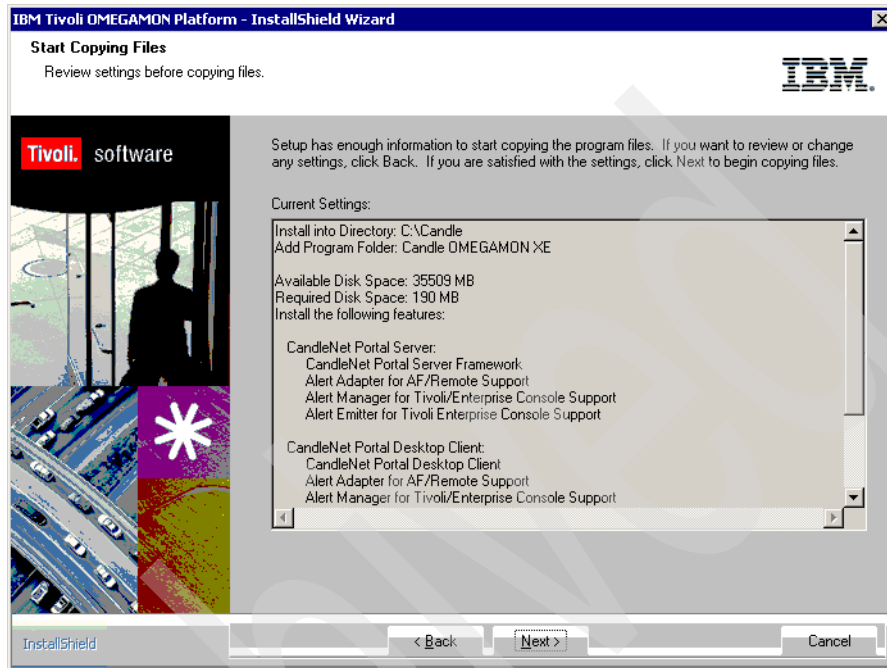

Figure 3-39 Installation summary
4. Figure 3-39 shows the installation summary. Click **Next** to start the installer copying files.